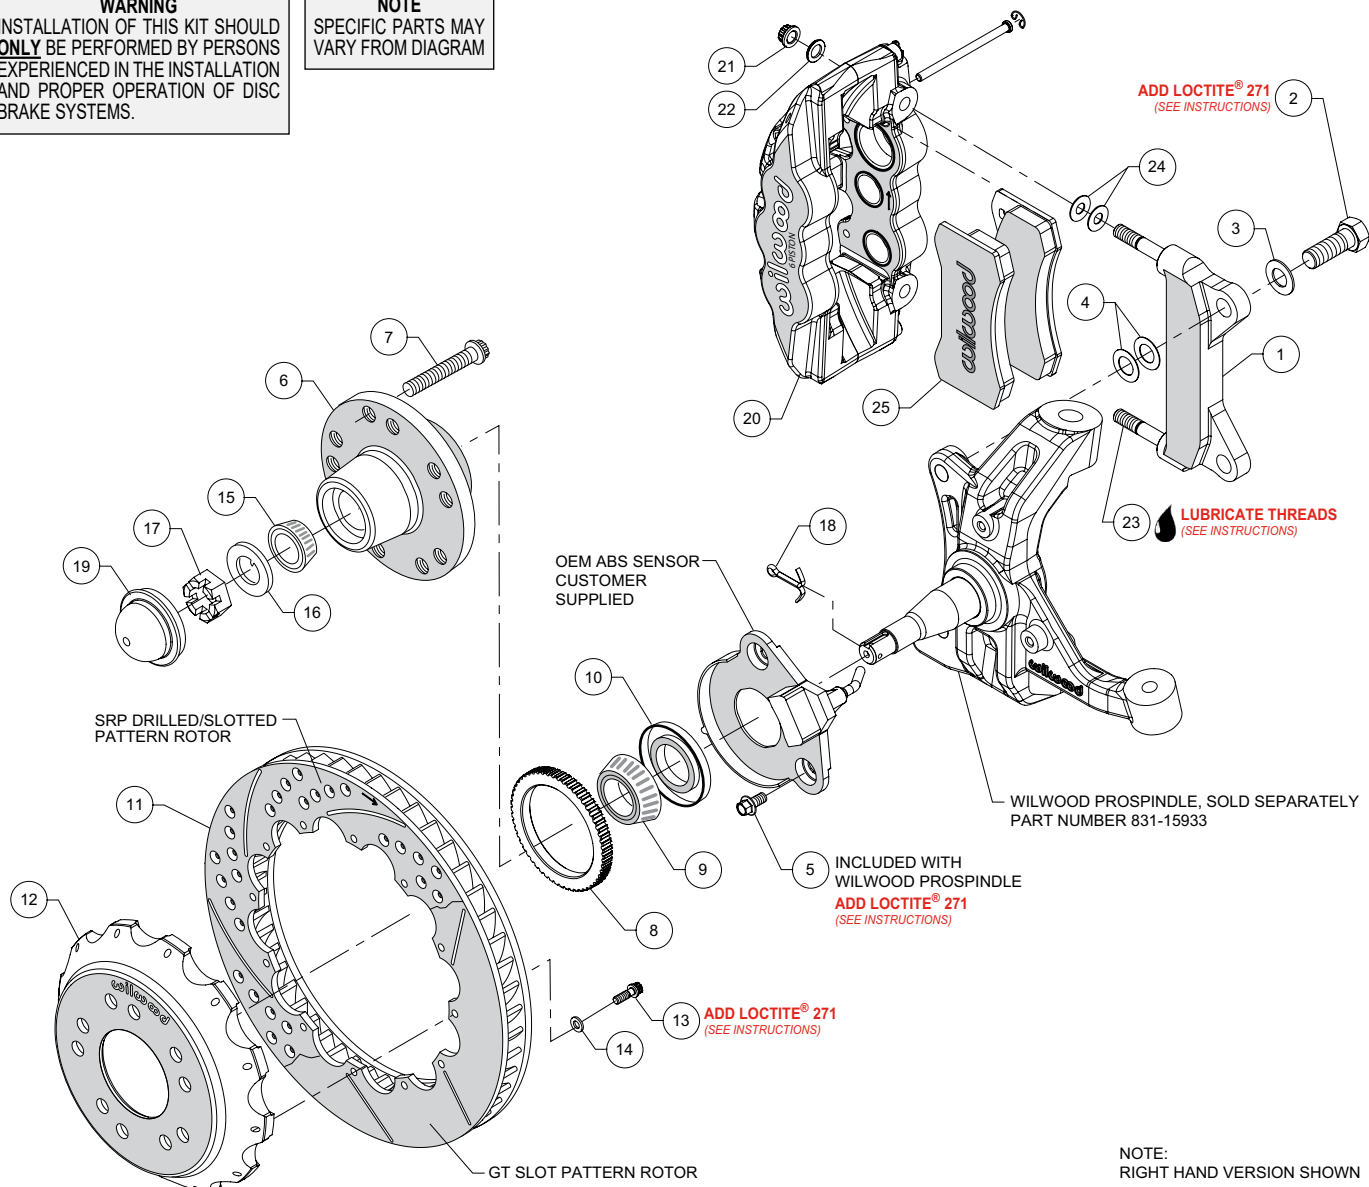
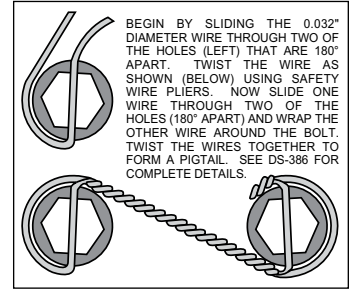

Figure 1. Typical Installation Configuration
Figure 3. Safety Wire Diagram
NOTE: Numbers in parenthesis refer to the parts list and Figure 1 on the preceding pages.
- For vehicles equipped with ABS, install the OEM ABS sensor (customer supplied) to the spindle using bolts (5) as shown in Figure 1 and Photo 3. Temporarily tighten the mounting bolts. **NOTE: The sensor must fit squarely against the mount bosses on the spindle.** Inspect for interference from casting irregularities, machining ridges, burrs, etc. Remove the bolts one at a time and apply red *Loctite*® 271 to the threads, and torque to 20 ft-lb.
- The caliper mount bracket (1) should initially be installed with clean, dry threads on the mounting bolts. Orient the bracket, as shown in Figure 1 and Photo 4, and install using bolts (2) and washers (3). Initially place two .024" thick shims (4) on each bolt between the bracket and spindle, Figure 1. Temporarily tighten the mounting bolts. **NOTE: The bracket must fit squarely against the mount bosses on the spindle.** Inspect for interference from casting irregularities, machining ridges, burrs, etc. Later, after the caliper alignment has been checked, the mount bolts will be secured using red *Loctite*® 271.
- Install wheel studs (7) into the hub (6), Photo 5. Torque to 77 ft-lb. **NOTE: There are two five lug patterns in the hub (5 x 4.75 and 5 x 5.00).** Ensure the correct hub stud pattern is being used to fit the wheel application.
- For vehicles equipped with ABS, carefully press the ABS ring (8) onto the backside of the hub (6) as shown in Figure 1 and Photo 6.
- Pack the large inner bearing cone (9) with high temperature disc brake bearing grease (available from your local auto parts store) and install into the backside of the hub (6), Photo 7.
- Install the grease seal (10) by pressing into the backside of the hub (6), flush with the end of the hub, Photo 7.
- Press the dust cap (19) into the hub (6). **NOTE: Do not hammer center of cap. Install using outer flange only.**
- Orient the rotor (11) and the hat (12) as shown in Figure 1 and Photo 9. Attach rotor to hat using bolts (13) and washers (14). Apply red *Loctite*® 271 to the bolt threads and torque to 155 **in-lb** using a criss-cross pattern. For an added measure of security, the bolts may be safety wired using standard 0.032 inch diameter stainless steel safety wire as shown in Figure 3. Refer to Wilwood's data sheet DS-386 (available at www.wilwood.com/Pdf/DataSheets/ds386.pdf) for complete safety wire installation instructions.
- Slide the hat/rotor (12 and 11) onto the hub (6), Photo 10. **NOTE: The hat must fit flush against the hub face or excessive rotor run out may result.** Install three lug nuts (finger tight) to keep the hat/rotor in place while continuing with the installation.
- NOTE: This kit contains distinct right and left hand calipers that must be mounted in a specific direction, as described below.** Lubricate the caliper mounting studs (23) with lightweight oil. Initially place two .030" thick shims (24) on each stud between the caliper and the bracket, as shown in Figure 1 and Photo 11. Mount the caliper (20) onto the bracket (1) using lock nuts (21) and washers (22), Figure 1. Temporarily tighten the lock nuts. Ensure that the caliper is mounted so that the largest pistons are at the rotor exit end of the caliper, in relation to the direction of rotor rotation. View the rotor through the top opening of the caliper. The rotor should be centered in the caliper, Photo 12. If not, adjust by adding or subtracting shims (4) between the bracket and the spindle. Always use the same amount of shims on each of the two mounting bolts. Once the caliper alignment is correct, remove the bracket mounting bolts one at a time, apply red *Loctite*® 271 to the threads, and torque to 140 ft-lb.
- Remove the caliper (20), then remove the two pad retaining pins from the caliper by carefully popping out the pin retaining clips and sliding out the pins. Insert the brake pads (25) into the caliper from the bottom, Figure 1 and Photo 13. With the friction material facing the rotor, secure the brake pads in place with the pad retaining pins and clips, Photo 14. Reinstall the caliper onto the caliper mounting bracket and temporarily tighten the lock nuts. Check that the top of the brake pad is flush with the outside diameter of the rotor, Photo 15. If not, adjust by adding or subtracting shims (24) between the caliper (20) and the bracket (1). After the caliper pad height is set, torque the caliper lock nuts (21) to 47 ft-lb.